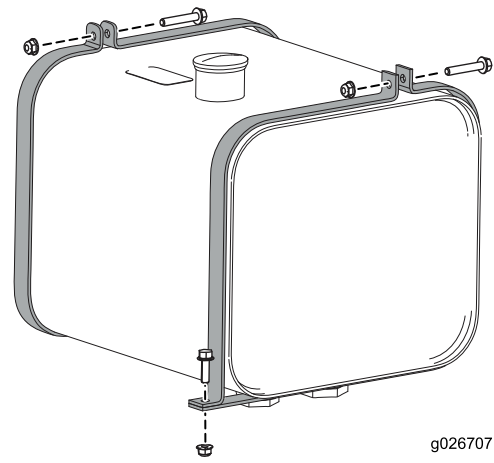

Figure 45
8. Loosen the hydraulic tank straps and remove the hydraulic tank from the machine (Figure 45).